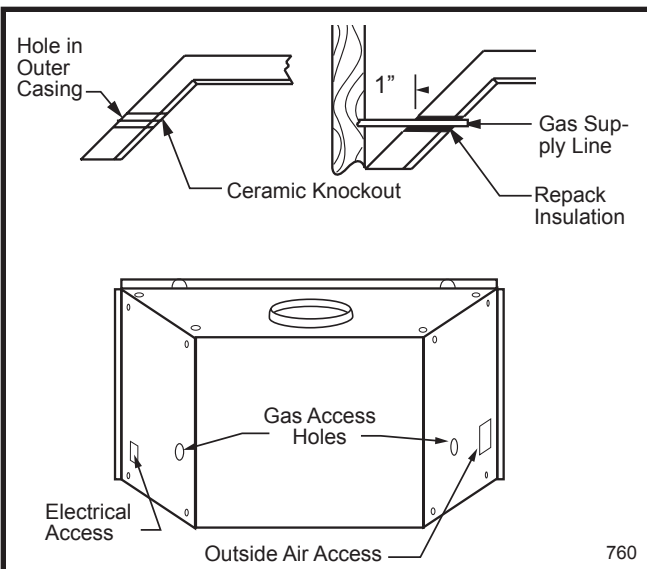

Fig. 3 Gas line installation - factory built fireplace.
Insert a 1/2" gas pipe through the gas line tube provided by the manufacturer, from outside the fireplace, as marked by the manufacturer. An ON/OFF valve should be placed within easy reach of the appliance. After the gas supply is installed, reinstall the insulation removed from the gas line tube, and pack it around the pipe, to prevent cold air entry and to protect the gas line. (Fig. 3)
NOTE: The gas pipe should not come into contact with any wood structure until it has reached a point at least one (1) inch away from the fireplace side. (Fig. 3)